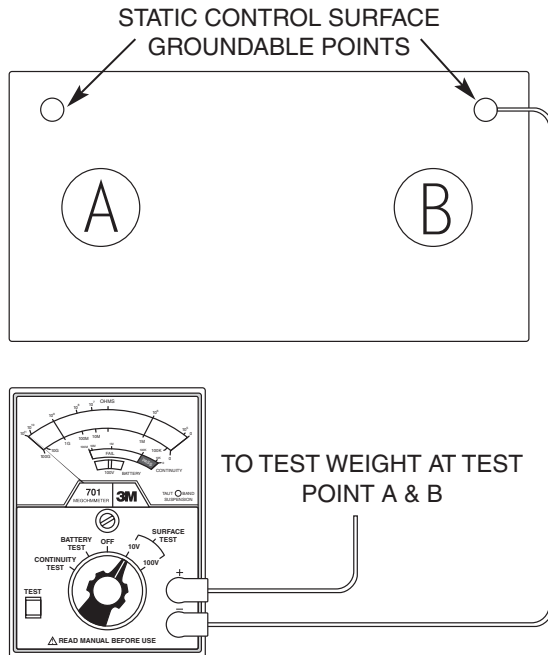

Figure 5-4: Material Evaluation Surface to Groundable Point Test
D. Surface-to-Groundable Point Test: Test samples per Figure 5-4, using both the 100 volts and 10 volts SURFACE TEST ranges at 50% RH and record the values as (R_{TS-GP}).